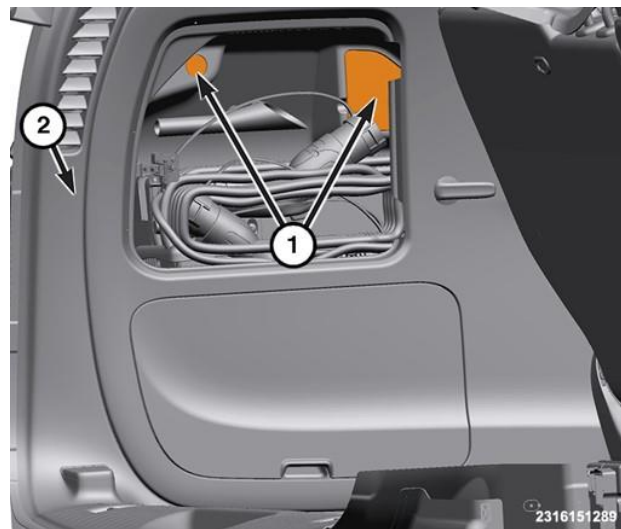

Figure 40 – Quarter Panel Insert
49. Remove the fastener covers (1) (Figure 40).
67. Install the fastener covers (1) (Figure 40).